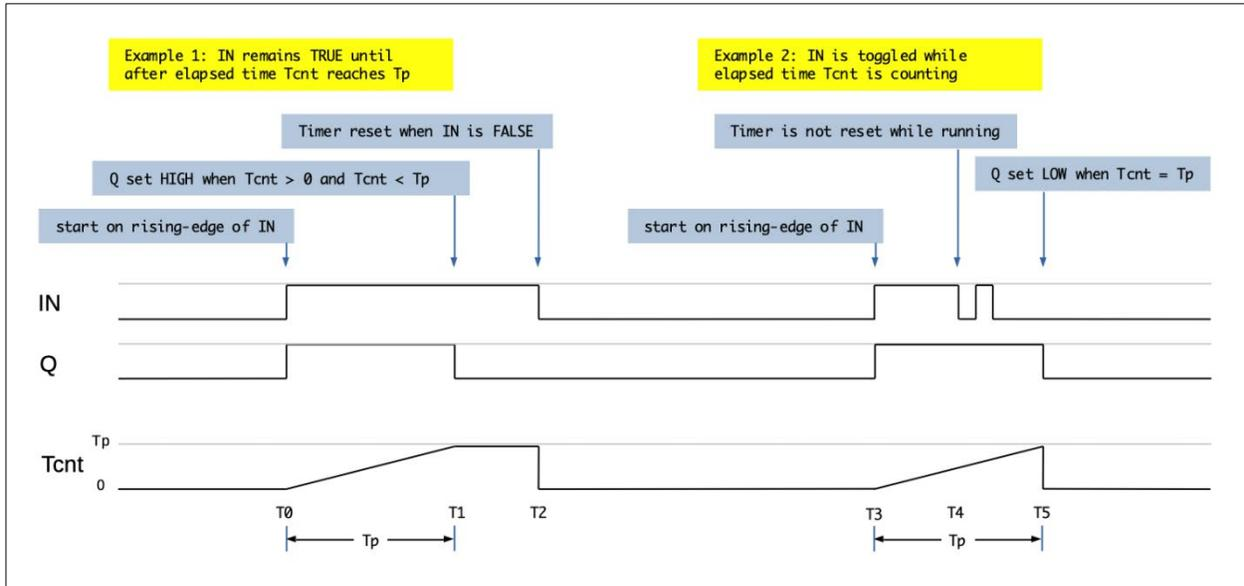

Figure 47 - Timer PULSE Function
Figure 47 - Timer PULSE Function shows the timer’s output (Q) as a function of the input (IN) state, elapsed time (Tcnt), and the user defined timer period (Tp).